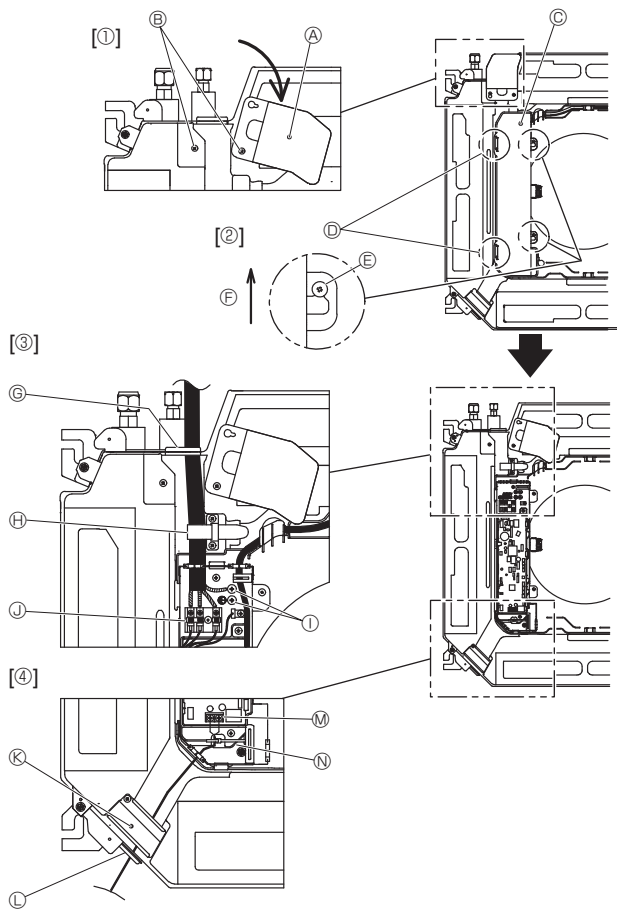
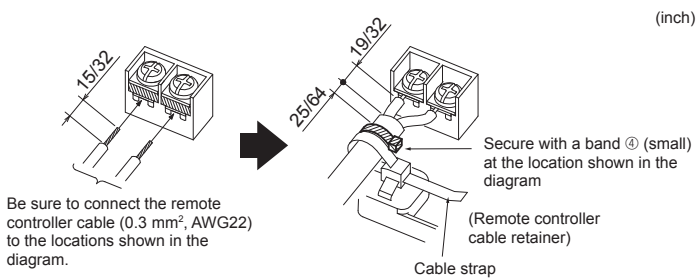

Fig. 6-1
Fig. 6-3
6.1. Indoor unit (Fig. 6-1)
1. Loosen the two screws securing the electrical wiring service panel, and then turn the electrical wiring service panel. [Fig. 6-1 ①]
2. Loosen the two screws securing the electrical box cover, then slide the electrical box cover. [Fig. 6-1 ②]
3. Pass the power cable, indoor/outdoor unit connecting cable and earth cable through the wiring entries given in the diagram. [Fig. 6-1 ③]
4. Pass and wire the remote controller cable through the wiring entries given in the diagram. [Fig. 6-1 ④, Fig. 6-3]